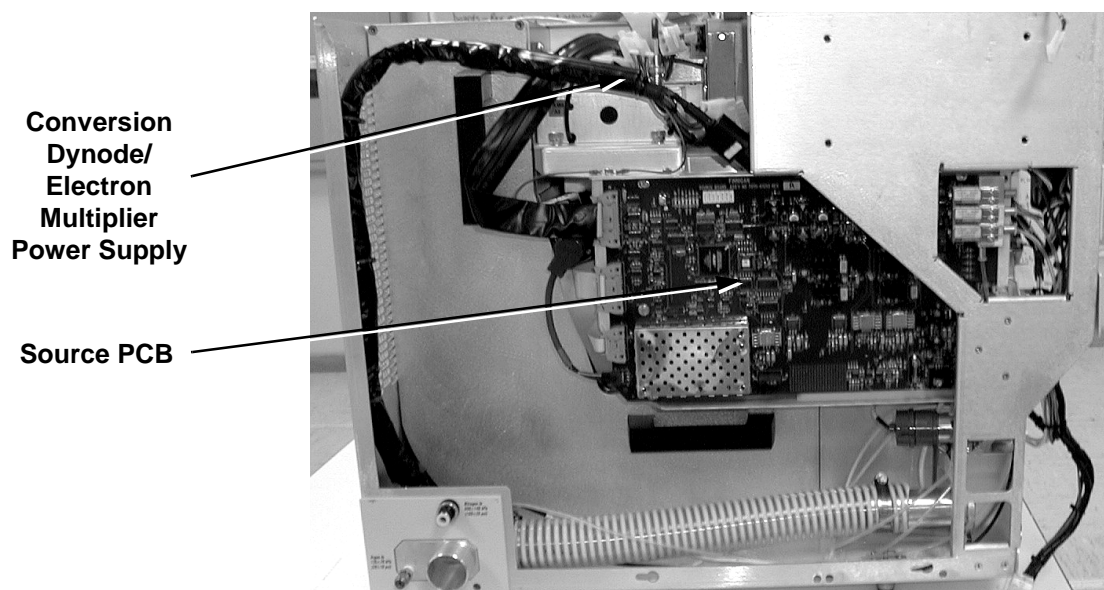

Figure 7-6. PCBs and power supplies accessible from the left side
- PCBs and assemblies that are accessible from the left side of the mass spectrometer (See Figure 7-6.)